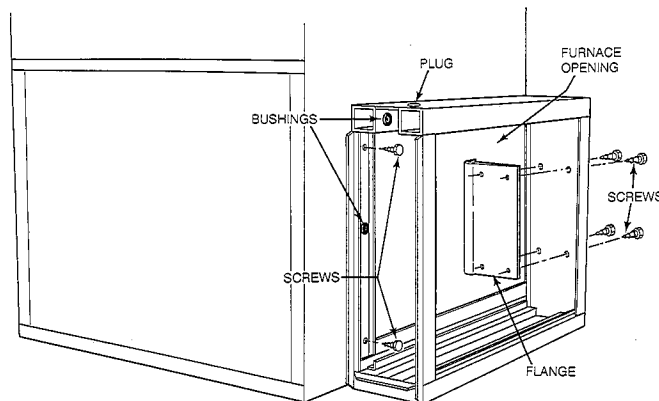

Fig. 6—Electronic Air Cleaner Installation
6. Hook back flange into the opening. Use air cleaner cabinet front support flange adjacent to the unit as template and drill two holes on furnace casing. See Fig. 6.
7. Secure the unit with (2) screws using screws provided into drilled holes. See Fig. 6.